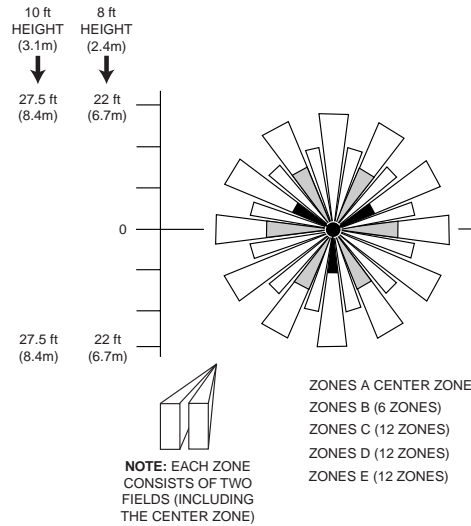

Figure 3. PC Board (in base of PIR)
3. **Break out one of the two knockouts** that have been provided for wire access (see Figure 3), and pass the wires into the base of the PIR. *Caution: Be certain that wires do not obstruct the detector's field of view.*
4. **Connect all wires** to the screw terminals (see Figure 3 for wiring details). Seal all openings in the base with foam or RTV (not supplied) to prevent drafts or insects from entering the unit.
The detector is shipped with the Alarm LED disabled (LED enable/disable plug in place). The LED should be enabled (for a walk-test) by *removing* the LED enable/disable plug (see Figure 3 for location). To prevent the loss of the plug, we suggest you install it on one pin when the plug is not in use. When the walk-test is completed, the LED may be disabled, if desired (plug in place).
This PIR is equipped with a cover tamper switch. With cover on, the switch is closed; when cover is removed, the switch opens. The tamper terminals (see Figure 3) should be connected to the control panel's tamper loop.
Each detector includes Pulse Count circuitry that is designed to provide stability in adverse environments to minimize false alarms. Two-event pulse count is provided by positioning the jumper plug across the pulse count pins (see Figure 3 for location). To select one-event pulse count (instant response), remove the jumper plug. When programmed for 2-event pulse count, the detector will signal an alarm within 3 or 4 steps, since the processing logic requires more complex motion than just a momentary event. When the detector verifies an intrusion, the LED will light and the alarm relay contacts will transfer, both conditions lasting for approximately 1 to 3 seconds (dependent upon signal strength).